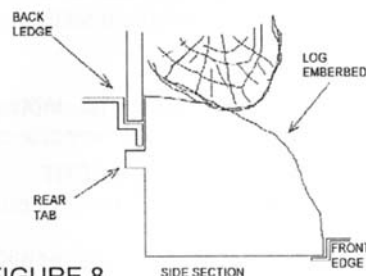

FIGURE 8
10. Replace the logset by inserting the front edge of the fireplace and push down on the rear edge of the emberbed until it snaps into place. (Figure 8)